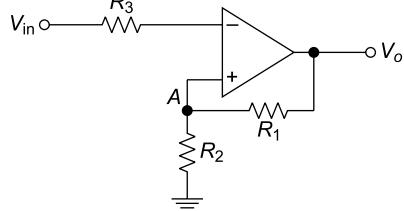

Fig. 5.73 Schmitt trigger circuit
Figure 5.73 shows a Schmitt trigger circuit. The input voltage is applied to the inverting ($-$) input terminal and feedback voltage is applied to the non-inverting ($+$) input terminal.
5.27 In a Schmitt trigger circuit as shown in Fig. 5.73, $R_1 = 10 \text{ k}\Omega$, $R_2 = 5 \text{ k}\Omega$, $V_{\text{in}} = 10 \sin \omega t$ and saturation voltage $\pm 15 \text{ V}$.